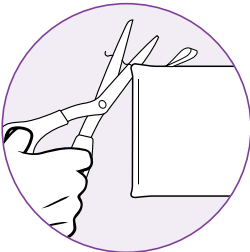

fig. 18
- 2 If there are loose threads on the cleaning pad carefully cut the thread with scissors. Do not pull on them or cut at the base. (fig. 18)